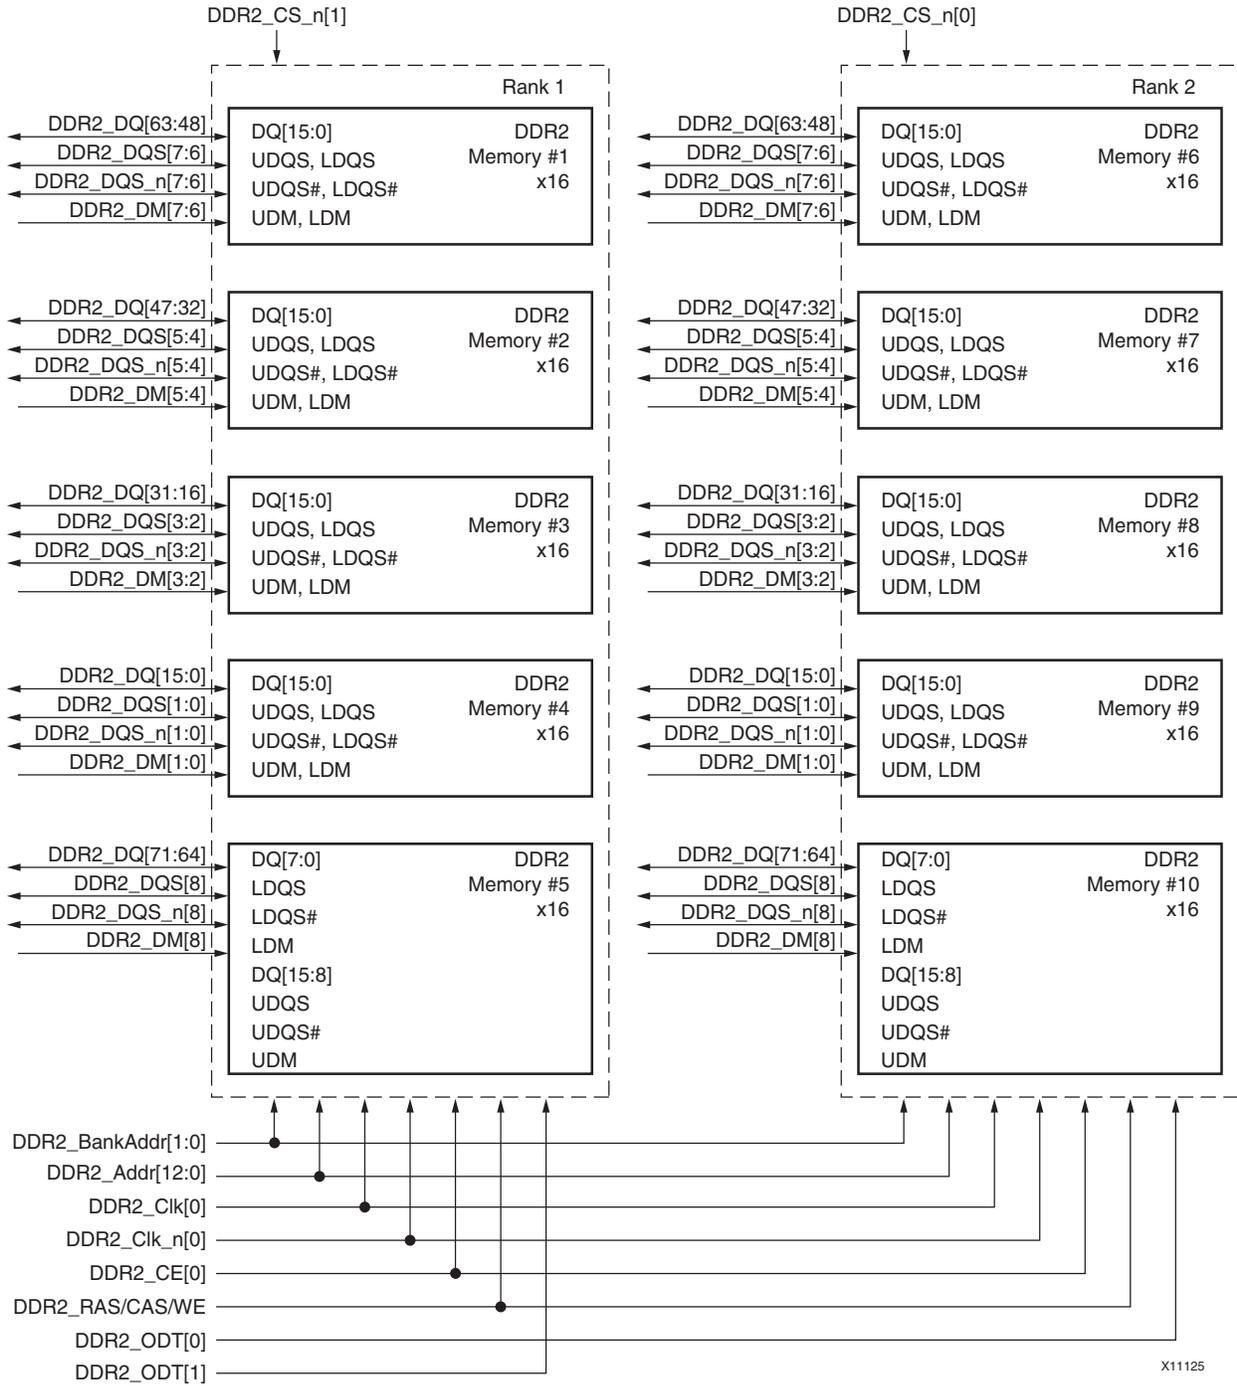

Figure 9: Example DDR2 Memory Connections
The example in Figure 9, page 95 has the following specified parameters:
- Within a particular rank, the signals DDR2_CS_n and DDR2_ODT are connected to each memory in the rank. Some memory manufactures have specific recommendations for how these signals should be connected. For example, when using a dual rank DIMM, the recommendation might be to assert DDR2_ODT on the same rank that DDR2_CS_n is asserted (as shown in Figure 9, page 95). Other recommendations might be to assert DDR2_ODT on to opposite rank that the DDR2_CS_n is asserted, which can be achieved by swapping DDR2_ODT[0] and DDR2_ODT[1].